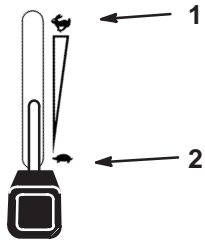

Figure 20
5. Move the throttle control to the fast position before starting a cold engine (Fig. 20).
1. Push the PTO to off (Fig. 20).
2. Move the throttle lever midway between the slow and fast positions (Fig. 20).